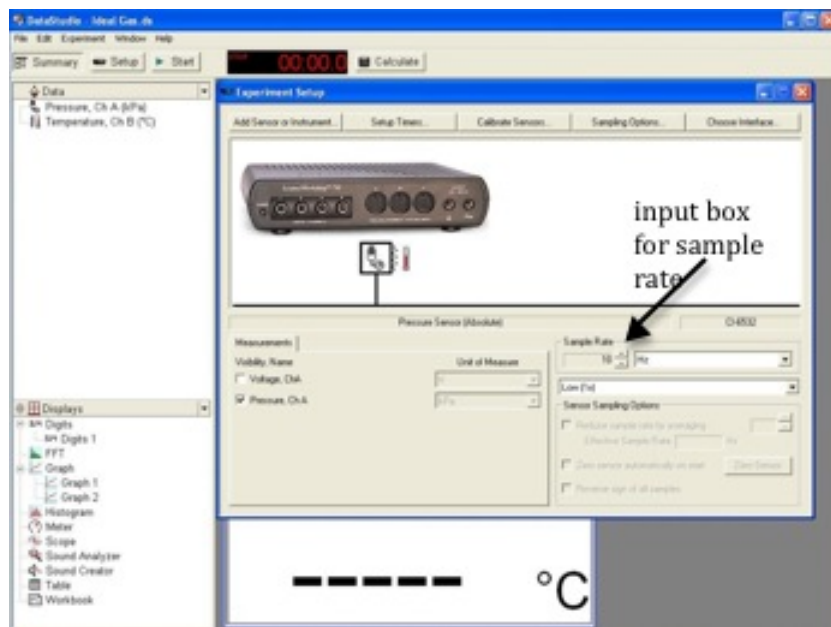

Figure 6: Opening screen for DataStudio software
- 2 Open the appropriate *DataStudio* file associated with this lab. Figure 6 shows the opening screen in *DataStudio*.
- 3 In *DataStudio*, set the sampling rate to 20 Hz. See Fig. 6.